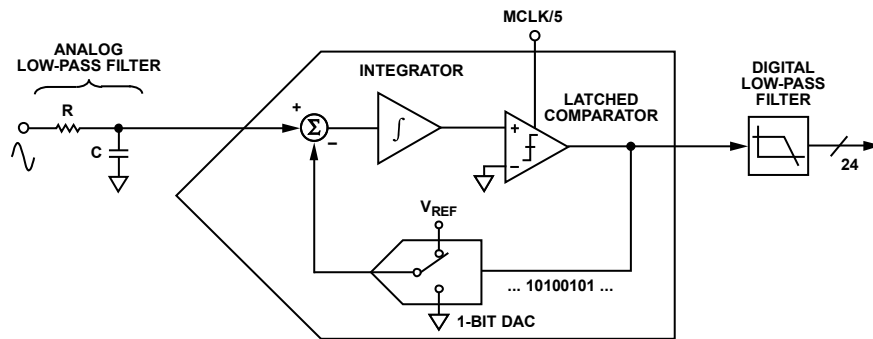
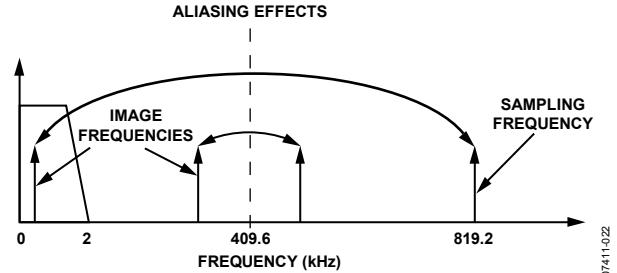

Figure 22. First-Order  $\Sigma$ - $\Delta$  ADC
Figure 23. ADC and Signal Processing in Current Channel Outline Dimensions
For simplicity, the block diagram in Figure 22 shows a first-order  $\Sigma$ - $\Delta$  ADC. The converter is made up of the  $\Sigma$ - $\Delta$  modulator and the digital low-pass filter.
Figure 22 also shows an analog low-pass filter (RC) on the input to the modulator. This filter is present to prevent aliasing, an artifact of all sampled systems. Aliasing means that frequency components in the input signal to the ADC, which are higher than half the sampling rate of the ADC, appear in the sampled signal at a frequency below half the sampling rate. Figure 23 illustrates the effect. Frequency components (the black arrows) above half the sampling frequency (also known as the Nyquist frequency, that is, 409.6 kHz) are imaged or folded back down below 409.6 kHz. This happens with all ADCs regardless of the architecture. In Figure 23, only frequencies near the sampling frequency (819.2 kHz) move into the band of interest for metering (40 Hz to 2 kHz). This allows the use of a very simple LPF (low-pass filter) to attenuate high frequency (near 819.2 kHz) noise and prevents distortion in the band of interest.
For conventional current sensors, a simple RC filter (single-pole LPF) with a corner frequency of 10 kHz produces an attenuation of approximately 40 dB at 819.2 kHz (see Figure 23). The 20 dB per decade attenuation is usually sufficient to eliminate the effects of aliasing for conventional current sensors. However, for a di/dt sensor such as a Rogowski coil, the sensor has a 20 dB per decade gain. This neutralizes the -20 dB per decade attenuation produced by one simple LPF. Therefore, when using a di/dt sensor, care should be taken to offset the 20 dB per decade gain. One simple approach is to cascade two RC filters to produce the -40 dB per decade attenuation needed.